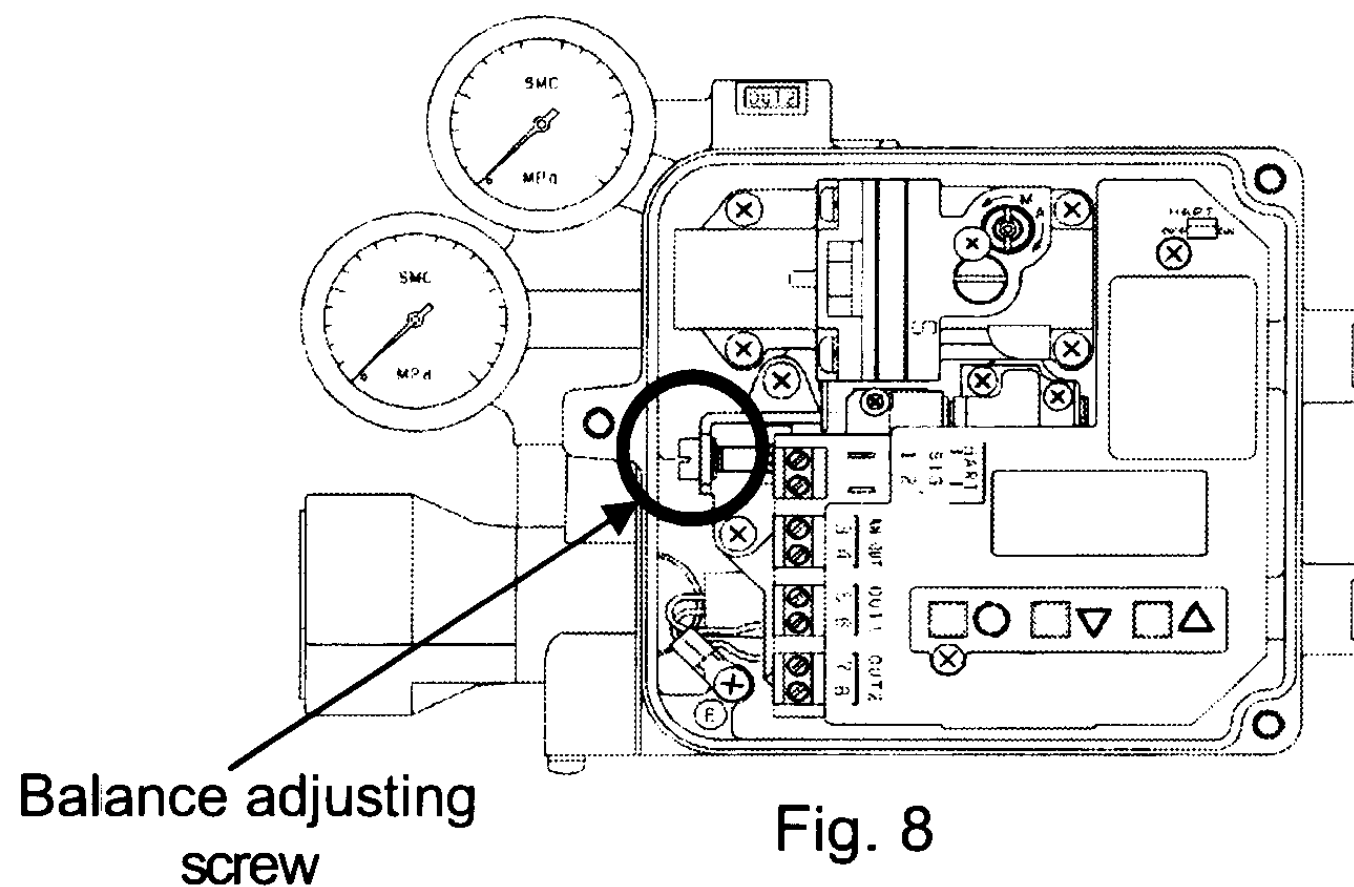

Fig. 8
*7: For the balance adjusting screw position, refer to Fig. 8. Adjustments must be made with a flat blade driver. Counterclockwise rotation decreases pressure and clockwise rotation increases pressure.